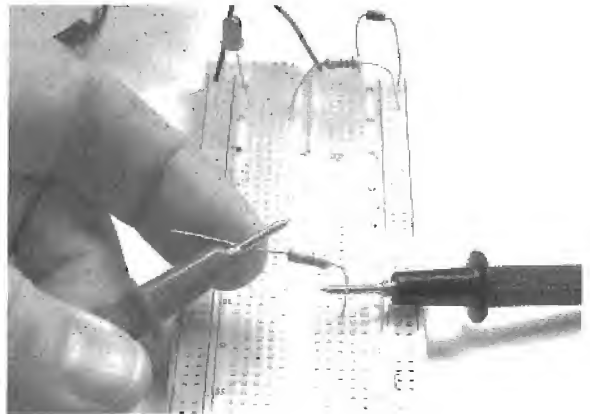

Figure L4-2
**Proper Method to Measure Resistor's Value** Figure L4-2 shows how to measure a resistor. Place one end of the resistor into your solderless breadboard and hold the probe tightly against it, but not touching the metal. You can press the other probe against the top of the resistor with your other finger.